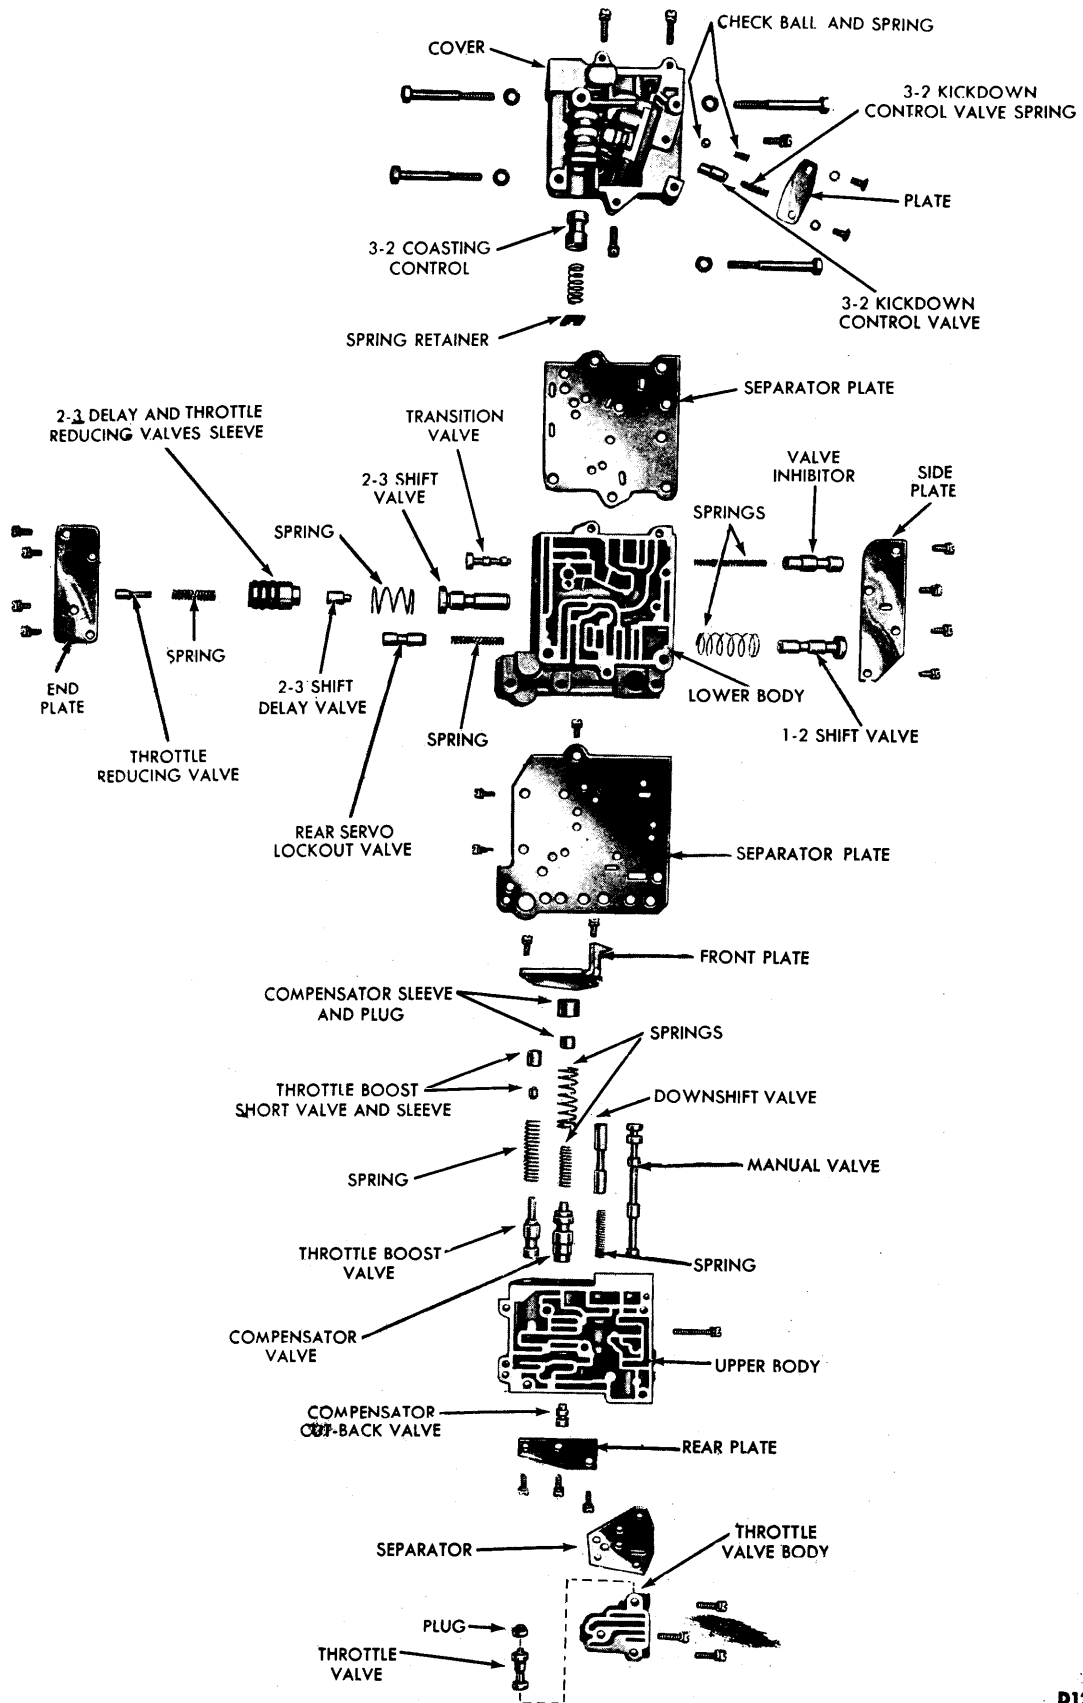

FIG. 43 - Control Valve Body Disassembled
1. Remove the manual valve (Fig. 43).
9. Remove the lower body side plate (Fig. 43). **The plate is spring-loaded. Apply pressure to the plate while removing the attaching screws.**
15. Remove the plate (Fig. 43) from the valve body cover.
20. Arrange all parts in their correct positions (Fig. 43). Rotate the valves and plugs when inserting them in their bores to avoid shearing of soft body castings.